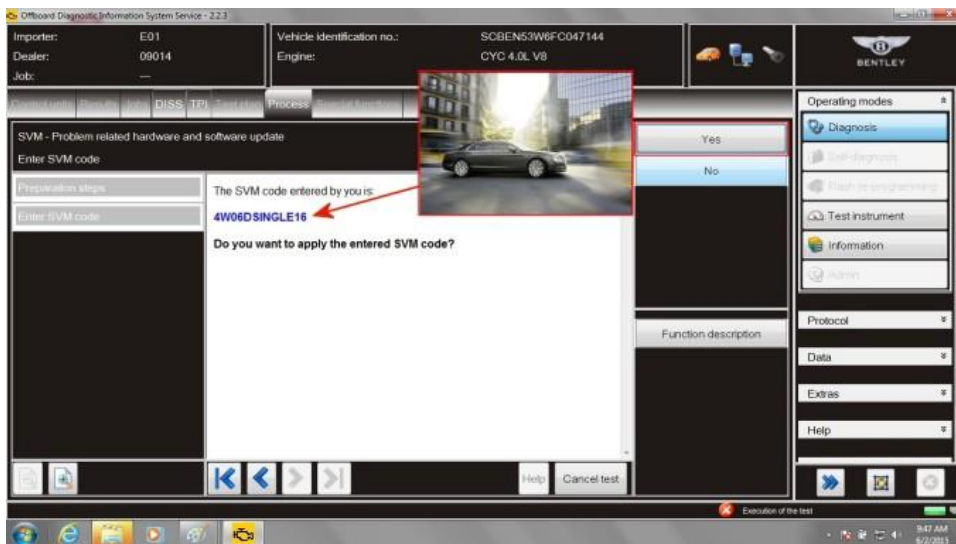

Figure 6
16. At SVM program was run screen select Done (see Figure 6)